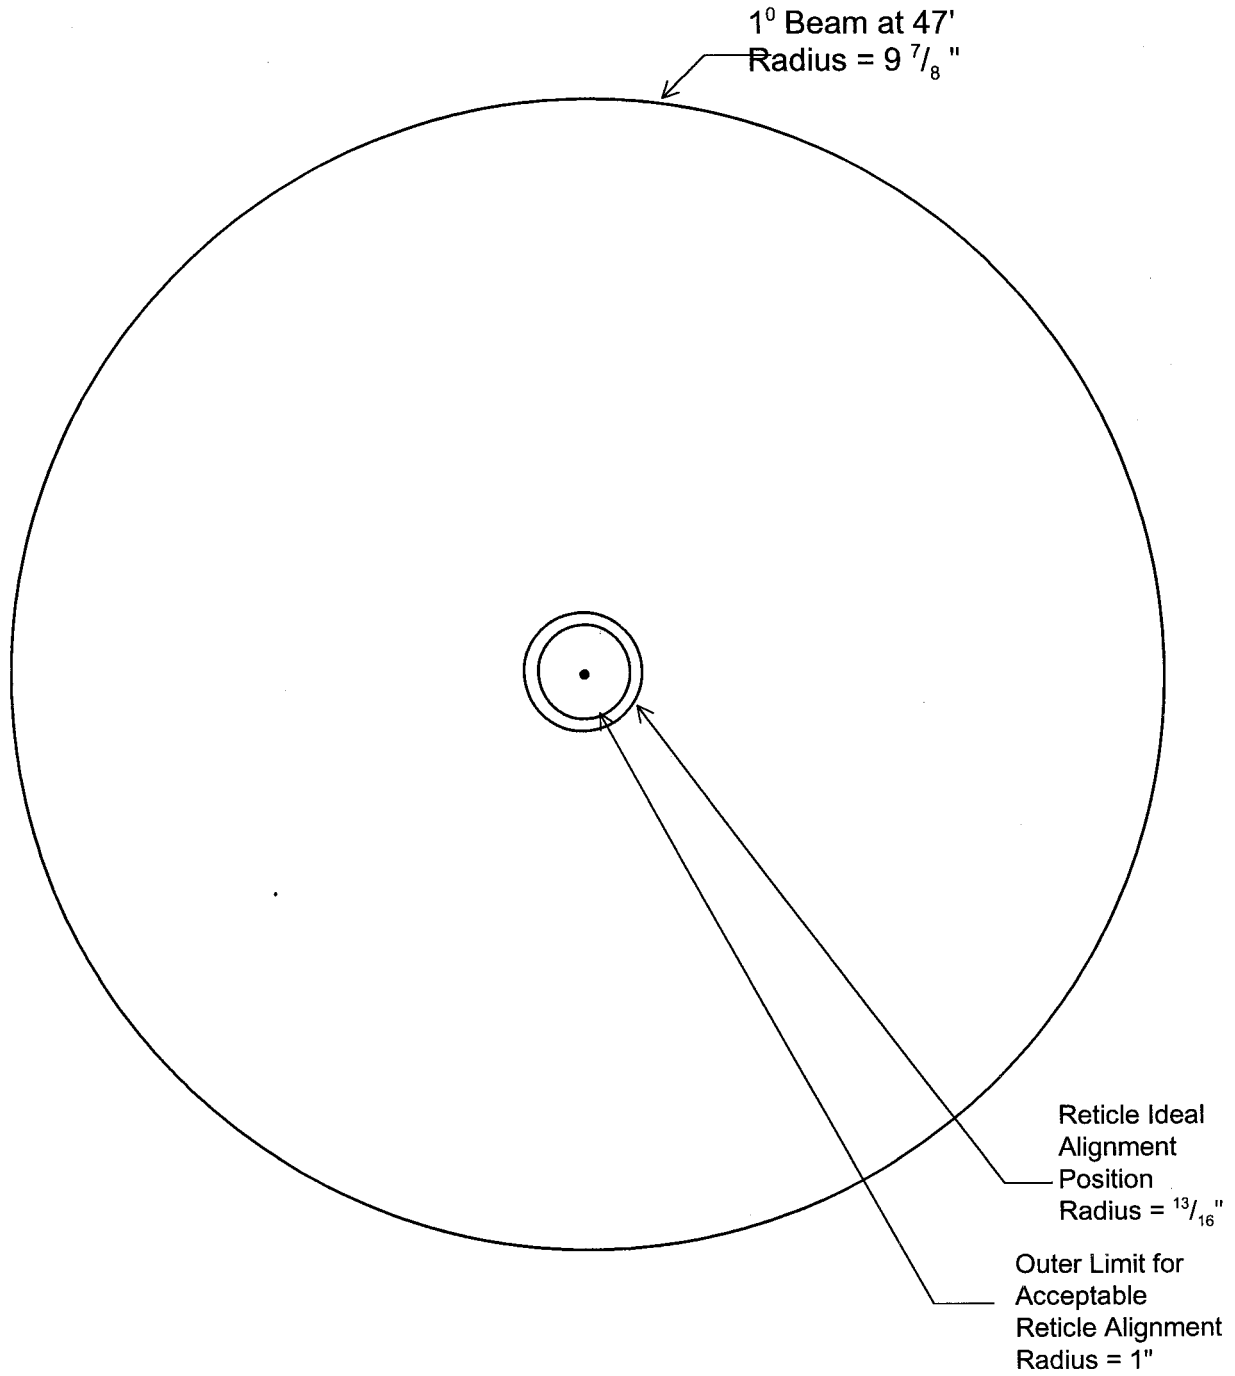

Figure 4-10. Transmitter Alignment Target.
- Transmitter alignment target (see Figure 4-10, Transmitter Alignment Target)